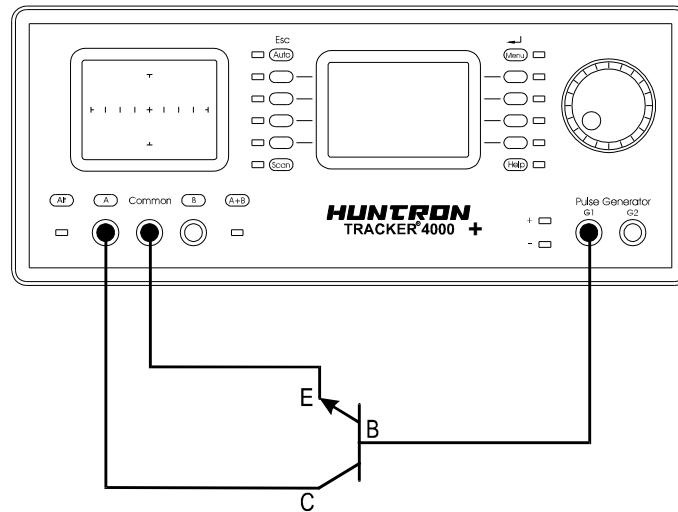

Figure 5-33. Pulse Generator Test Circuit For An NPN Transistor.
Figure 5-33 shows the test circuit for an NPN transistor using the pulse generator to drive the base. The constant current signature produced is similar to that produced by a transistor curve tracer except that only one curve is shown instead of a family of curves. This technique can be useful for functionally testing and matching transistor gain characteristics.
1. Setup the test circuit shown in figure 5-33 or 5-34 depending on what type of bipolar transistor you wish to test.